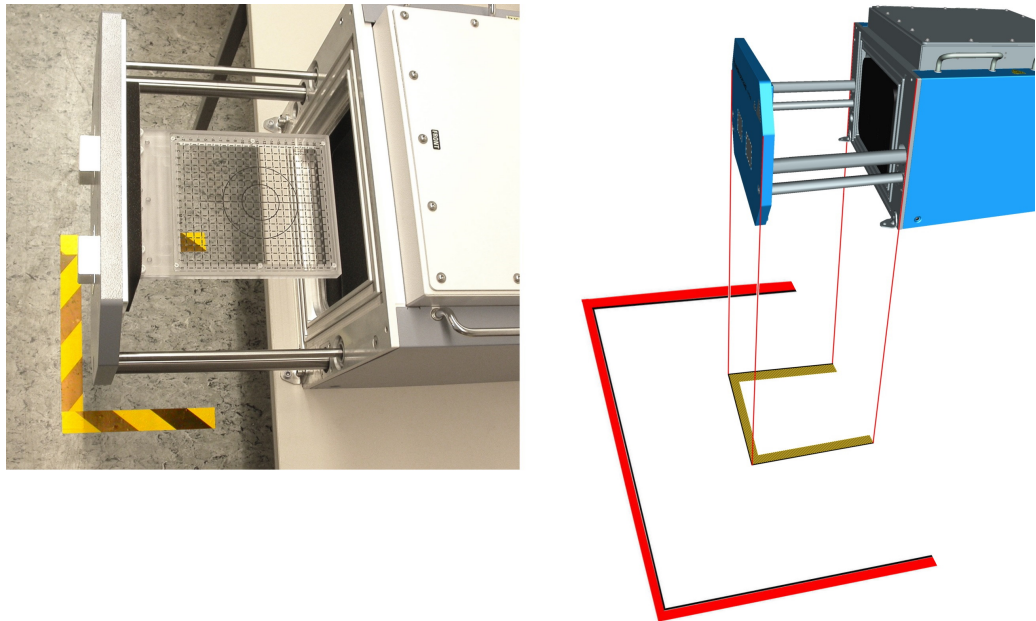

Figure 6-11: Zones of restricted access marked on the ground
The operator must be able to reach the control unit easily without entering the door zone (see Figure 6-11).
5. Mark the door zone on the ground below the chamber's opened door, as shown in Figure 6-11.
8. Mark the work zone at a distance of 1 m outside from the *door zone* on the ground. See Figure 6-11.